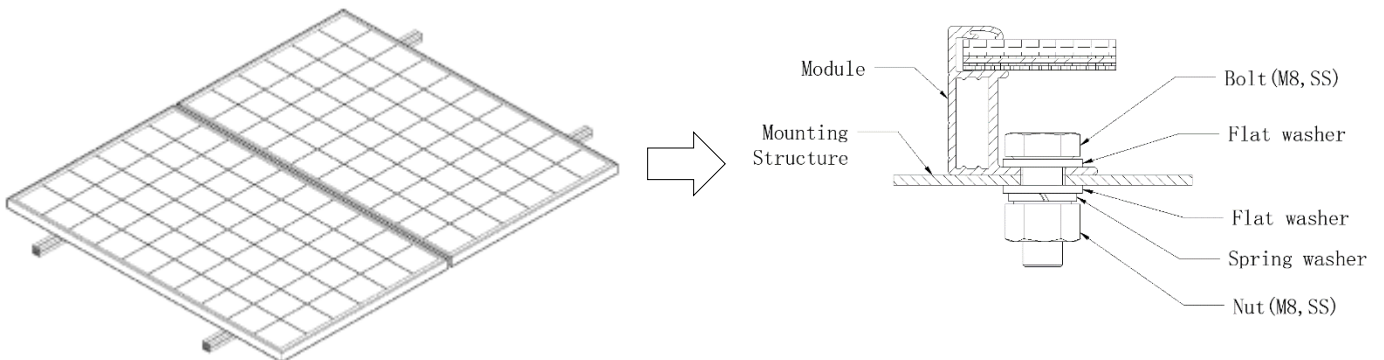

Figure 17 Bolt hole installation of Aluminum frame Module
- ◇ When selecting the bolt mounting hole method, ensure that there are at least four bolts on each Module, and the bolts need to be arranged symmetrically (Figure 17). The different mounting positions of the bolts affect the maximum load capacity of the Module (Table 3).